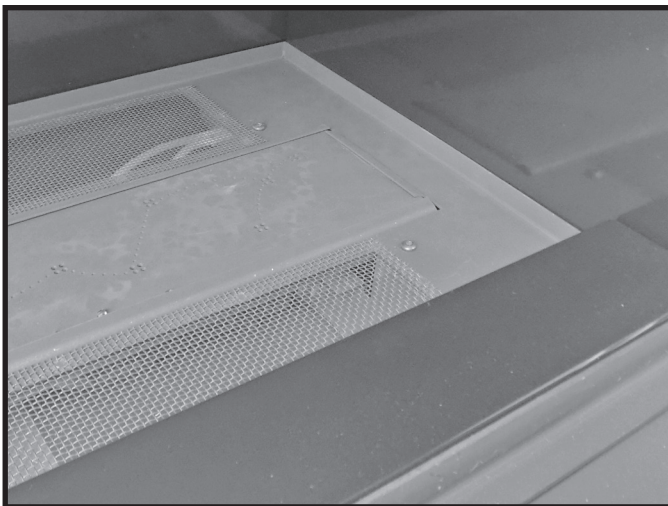

Figure 59: Front panel in place.
7. Rest the front panel over top of the horizontal support (Figure 59). Be sure that the long vertical edge of the panel is facing toward the front of the fireplace.